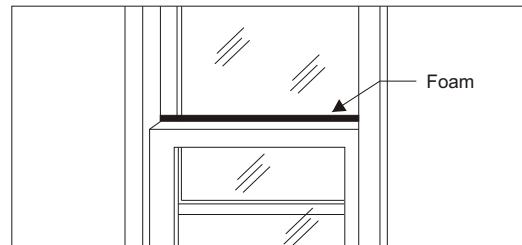

Fig. 13
A. Cut the **foam** to fit the opening between the top of the inside and outside window. See (Fig. 13).